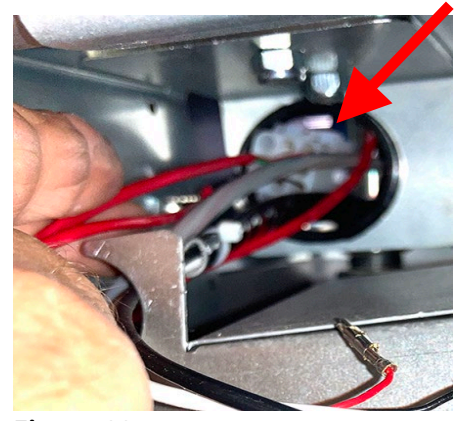

Figure 23
23. Continue guiding the 9-pin connector through the large Heyco bushing in the upper left corner, above and behind the FIB box (see Figures 23 and 24).